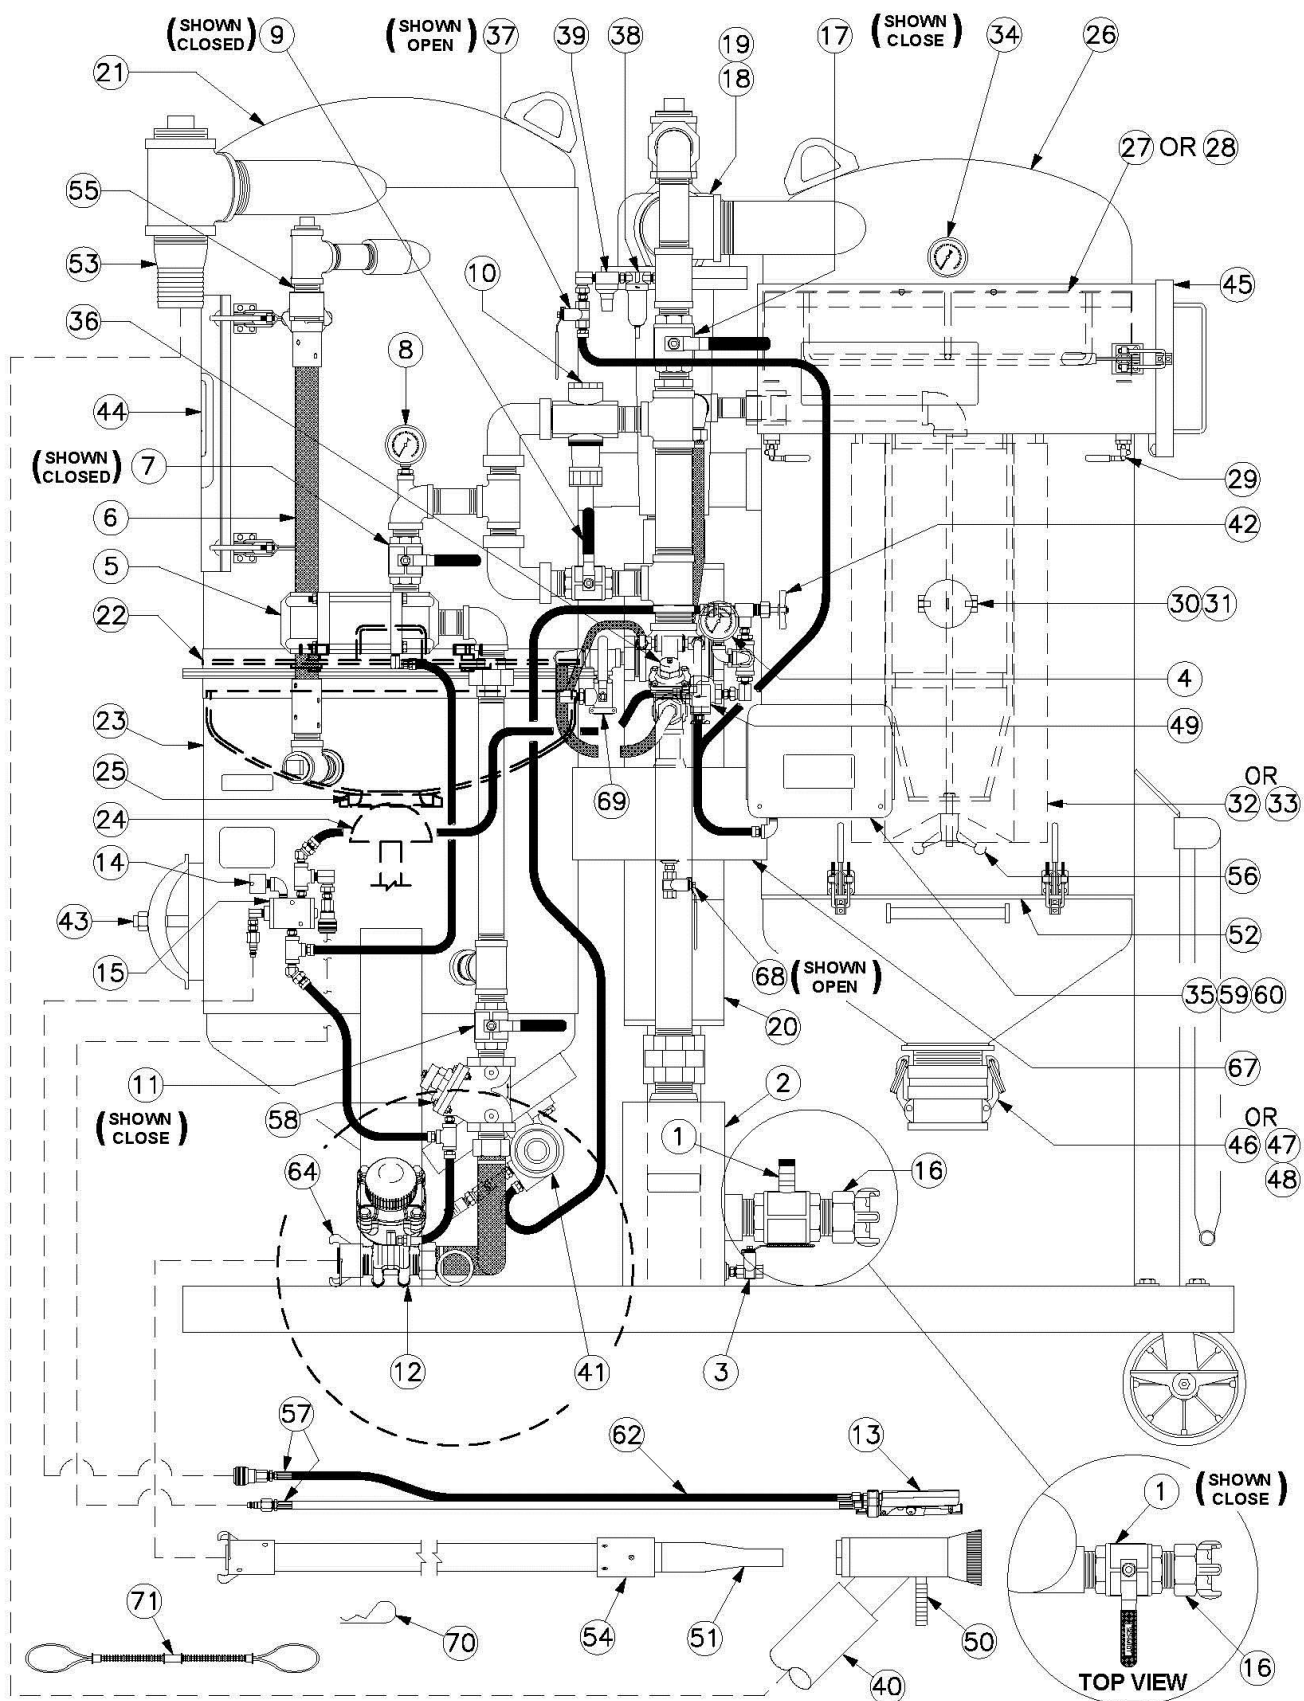

Figure 6.4 – Typical BRS Abrasive Blaster
- 6.2.2. The blast vessel air pressure will exhaust through the blowdown hose (#6) and into the media reclaimer (#21). See Figure 6.4. The blowdown hose (#6) and fittings should be periodically inspected for wear. Refer to Section 8.0 for inspection and maintenance details.
- 6.2.5. Close the air inlet ball valve (#1) to disable the blaster and the deadman blast control. The ball valve is closed when the handle is fully turned to the position shown in Figure 6.4 (handle perpendicular to body). The handle tab will bottom against the ball valve body in the closed position. **Note:** A faulty ball valve may allow air flow even in the closed position. Confirm air flow is stopped by opening the drain ball valve (#3) or by loosening the twinline connection (#57) to check for air flow. Replace faulty ball valves.